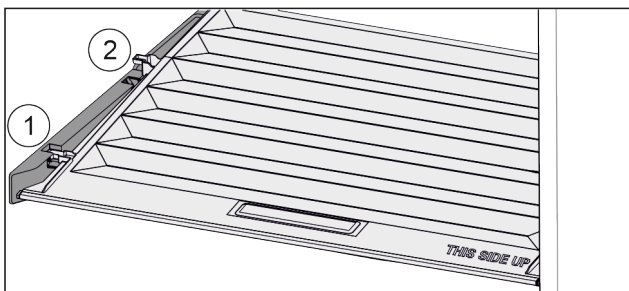

Fig. 115
- ▶ Pull the lid up at the front to the opening in the retaining parts Fig. 115 (1).
- ▶ Lift from the back and pull it up and out Fig. 115 (2).